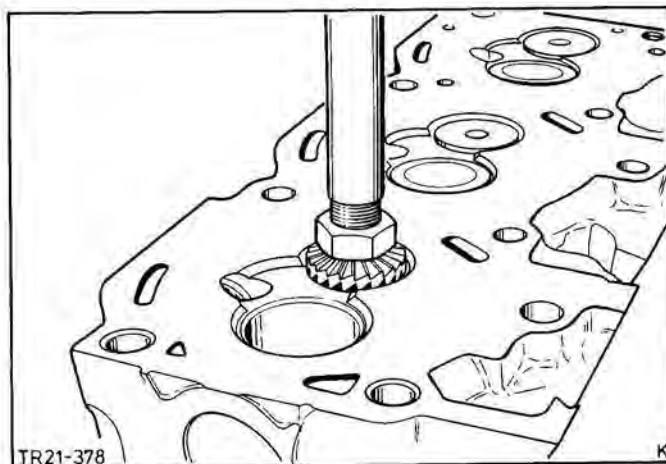

Fig.99. Recut valve seat.
3. Recut valve seat as specified (see Technical Data) using standard tool, Fig.99.